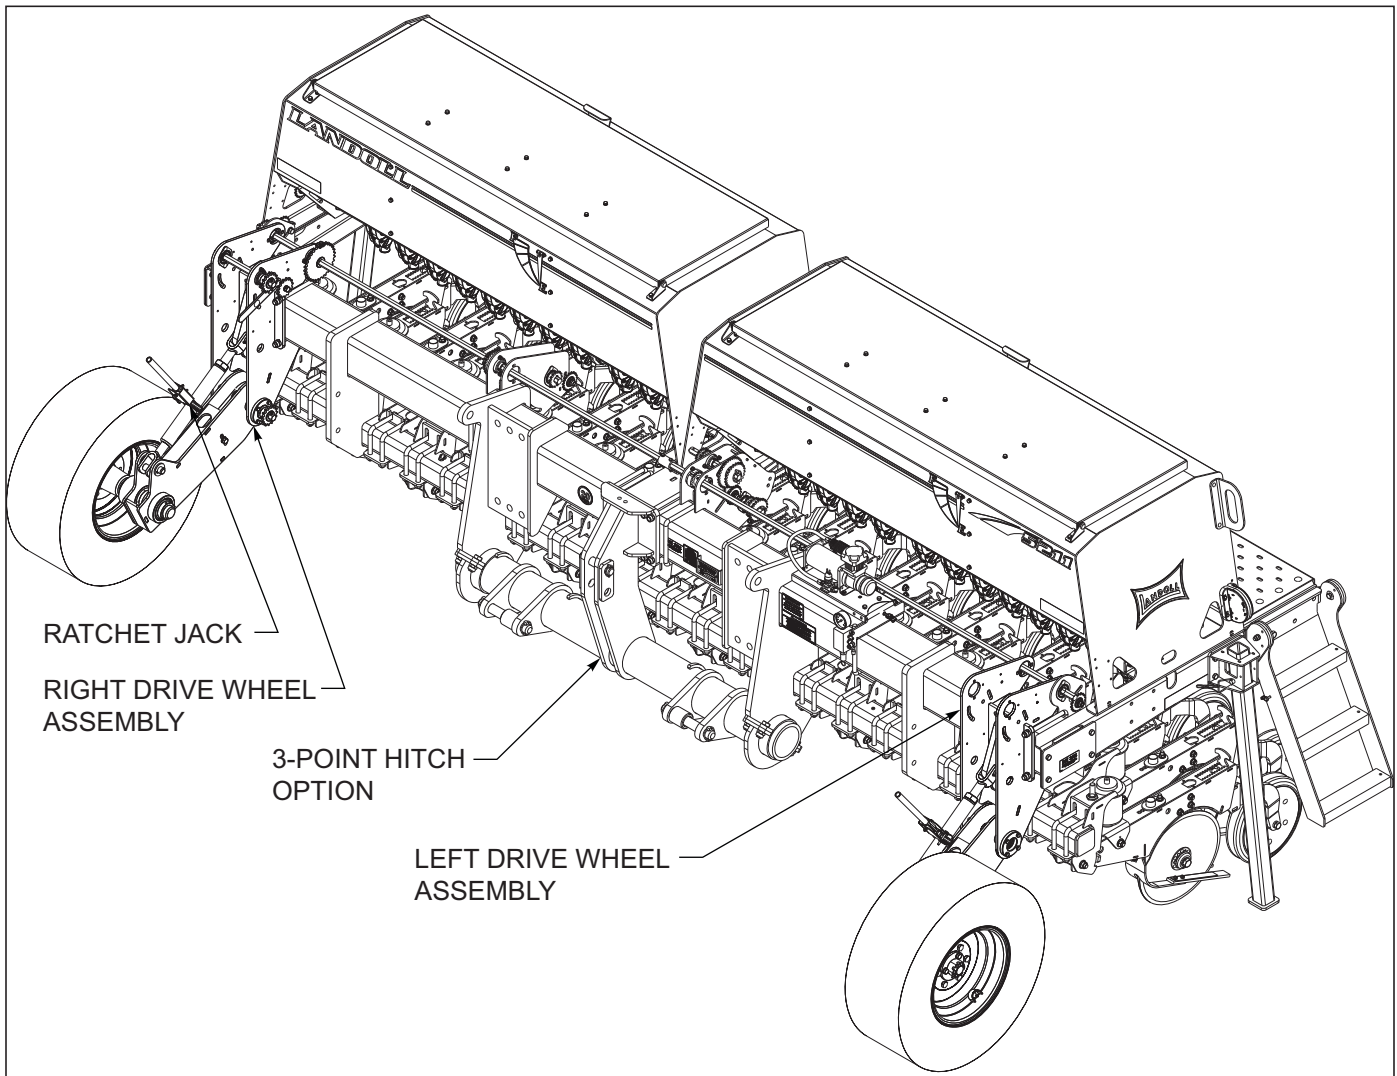

Figure 4-33: 3 Point Hitch
1. The 5211 may be equipped with a 3 point hitch versus a pull hitch See Figure 4-33. The 3 point hitch is a standard width CAT III hitch and will attach to any tractor with a CAT III hitch or quick hitch.